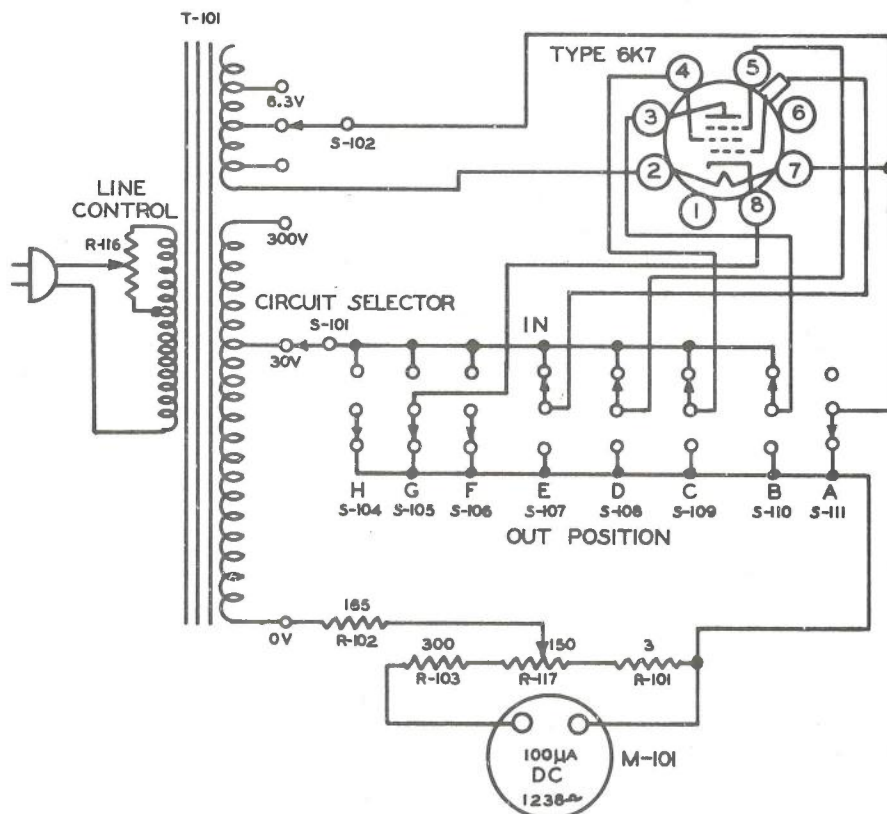

Figure 2-1. Simplified Schematic, Tube Test Section of Tube Tester
a. BASIC CIRCUITS OF TUBE TESTER TV-4/U. (See figure 2-1.) - The major circuit sections of the Tube Tester are shown in the Simplified Schematic, Tube Test Section. Energy for all tube elements is supplied by the power transformer through the FILAMENT, CIRCUIT and TUBE selectors to the socket panel. For purposes of explanation, the unit can be subdivided into the following basic circuit sections.
(1) POWER TRANSFORMER. - Supplies all potentials for the tube test functions as well as for the capacity meter ranges. Basically this transformer consists of a primary winding and three secondary sections with a total of 29 terminals. All windings are accurately wound; so that a single line control of the potentiometric type in the primary circuit can be used to adjust all of the secondary voltages.
(2) FILAMENT SELECTOR. - This consists of a 17-position switch with each contact connected to a transformer tap on the filament winding. Filament voltages can thus be individually selected in steps from 1.1 volts to 117 volts by rotating the switch knob. The operator should realize that it is important to index this switch correctly as the first operation in testing a tube.
(5) **ELECTRODE SWITCHES.** - As shown in figure 2-1, these switches connect between the socket panel and the electrode energizing circuits, with the exception of the filament circuit. Filament current is not fed through these switches. The switches are used individually or in groups for both tube tests and short tests. The first electrode switch marked A is used particularly for the cathode leakage test on indirectly heated tubes. The other electrode switches marked B through H are each connected to a socket terminal and control the energization of that terminal. One switch is used for each active tube element. A table showing the socket terminal controlled by each switch is listed in Section 4. The lower right-hand switch marked **NORMAL POSITION** in figure 1-2 is the meter reversing switch indicated in figure 2-1. It is only used for tests on three or four particular tubes.
(6) **SOCKET PANEL.** - The socket panel is actually a separate subassembly and is wired and tested as a complete unit before assembly in the Tube Tester. All thirteen socket terminals are wired directly to a single terminal strip which in turn connects to the electrode switches as shown in figure 2-1. The regular sockets are not lettered and are always used where foot-notes are not listed in the Tube Data Index. There is one regular socket available for each mechanical type of tube base including the miniature nine pin and acorn types. Where peculiar or unusual electrical characteristics are encountered, a $\dagger\dagger$ appears after the tube number indicating that the tube should be tested in the A socket, or a \oplus may be listed to indicate that the B socket should be used. These special sockets are mounted on the test panel in a row near the bottom of the tube tester. A combination socket near the left-hand edge of the socket panel is used for testing all four prong, five prong and six prong tubes. The large seven pin socket, next in line, will accommodate both large and small diameter seven pin bases. The acorn socket is designed to take five and seven radial pin acorn tubes with or without axial contacts. Octal, loctal, miniature seven and nine pin sockets are also available.
The basic principle of operation can be readily understood by referring to the simplified schematic (figure 2-1) showing a 6K7 tube under emission test.